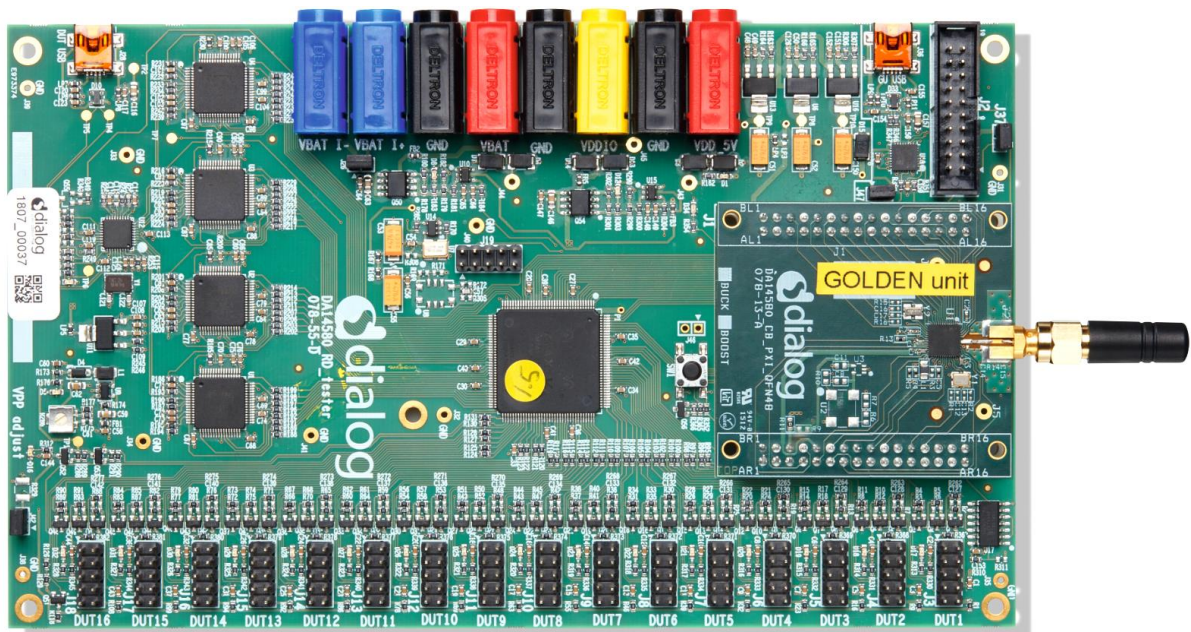

Figure 1: Production Line Tool Hardware
- Main board (Figure 1) together with a DA14580-QFN48 Golden Unit (GU)